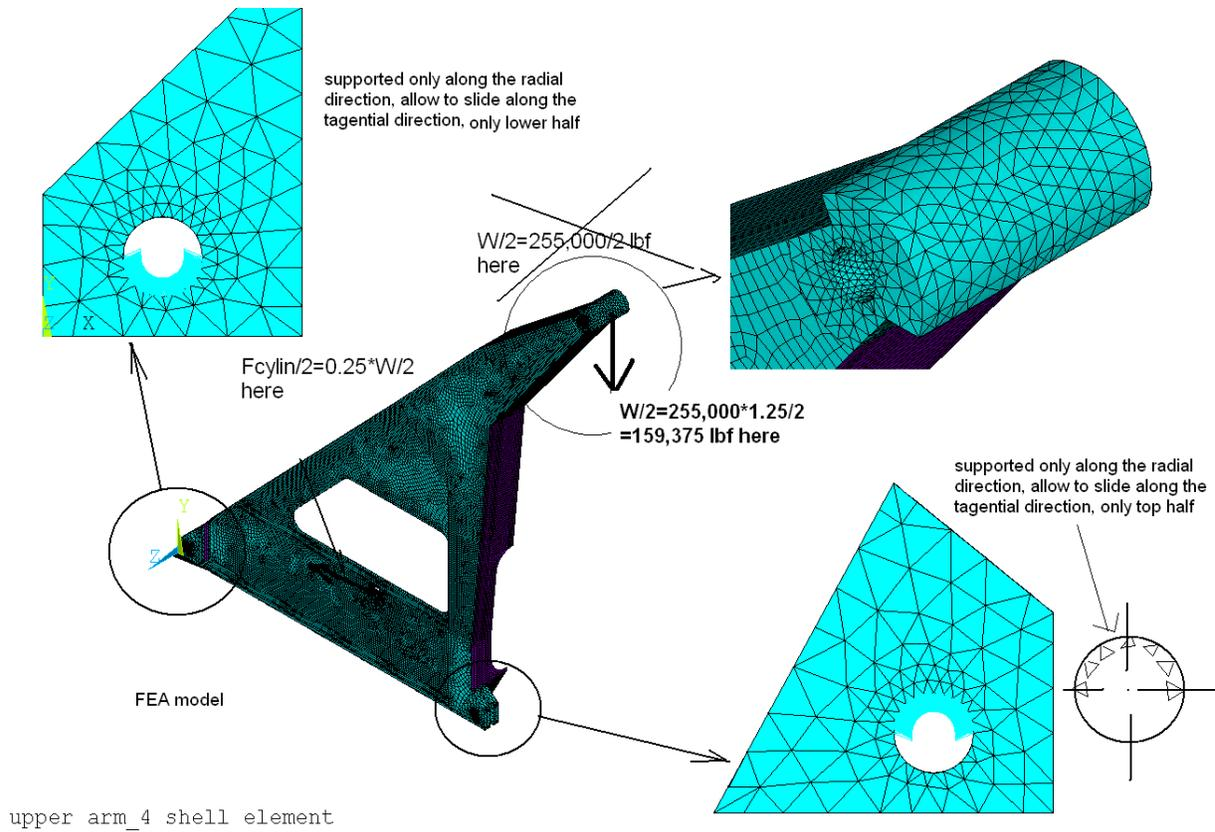

Fig 2 FEA model
One-half structure is modeled by a shell element (shell 181) in Ansys as shown in Fig 2 with a following condition:
- c) The constraints, for both front and back housing, are shown in Fig 2. For the front one, top half is constrained along the radial direction only with free rotation along the tangential direction. The back housing is constrained in a similar fashion, except it is on the lower half.